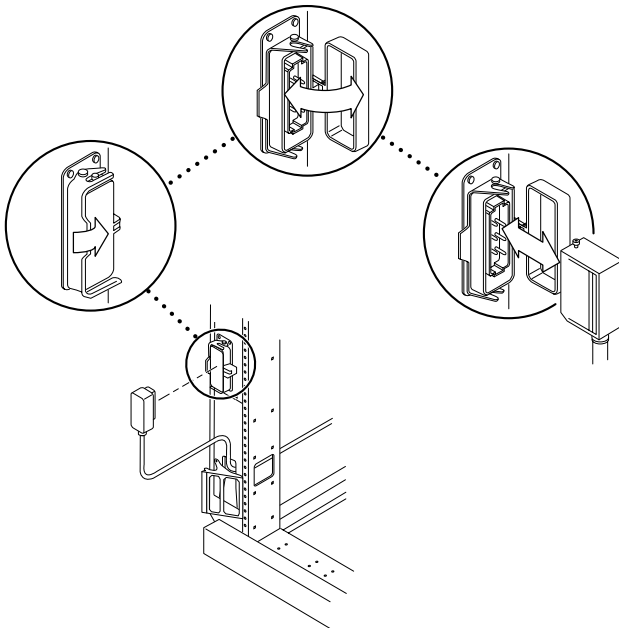

FIGURE 1-3 Power Sequencer Cable Cover Latch
- FIGURE 1-3 Power Sequencer Cable Cover Latch 4